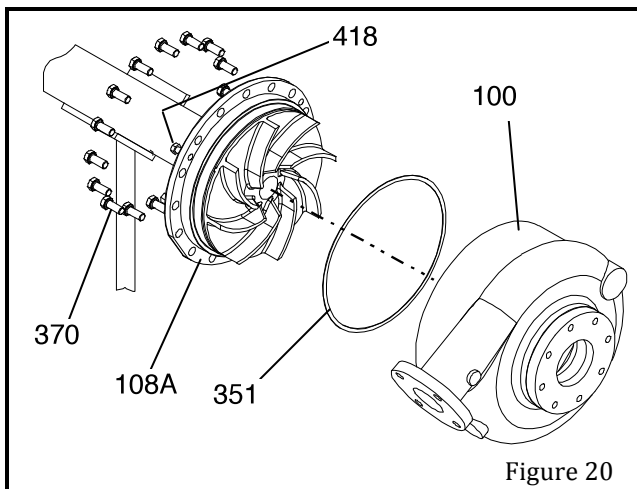

Figure 20
17. Disassemble the pump casing (100) by removing the casing to adapter bolts (370). Leave the jacking bolts (418) in place. When removing the casing, be careful not to mar the inside casing walls (Figure 20).